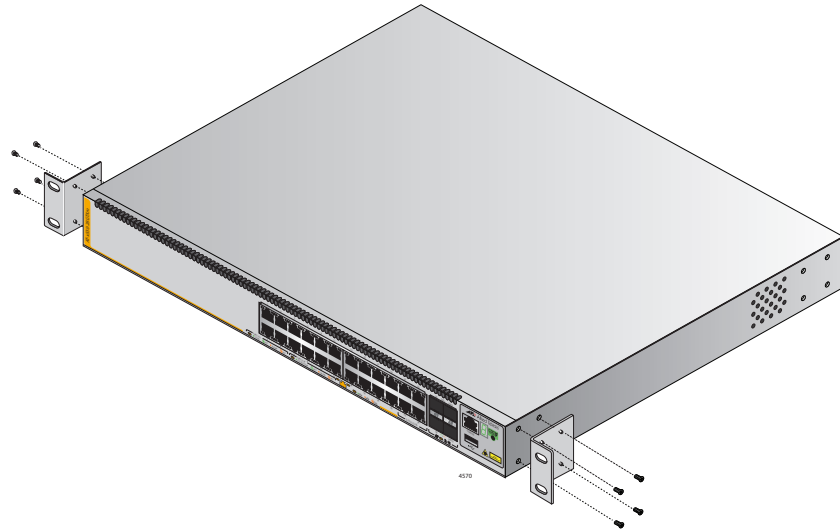

Figure 18. Example of Attaching the Brackets to the Switch
2. Attach the two brackets to the sides of the switch in the selected position, using the eight M4x6mm screws supplied with the unit. The illustration in Figure 18 shows the installation of the brackets such that the front panel of the switch is even with the front of the equipment rack.